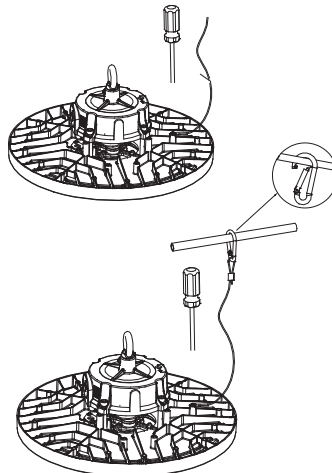

Figure 15
Step 1. Fix the safety rope on the lamp body with screws. (Figure 15) Step 2. Fix the safety buckle on the rail, and the installation is finished.